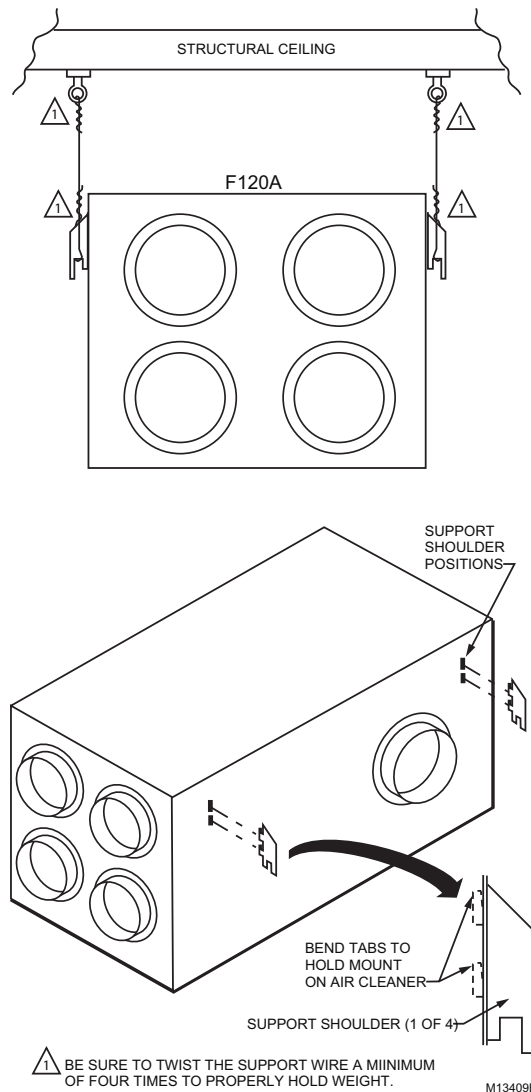

Fig. 5. Installing F120A blower module mounting bolts.
2. Mark the location for the mounting bolts in the structural ceiling. See Fig. 5.
4. Locate the multiple slots on the blower module for mounting the support shoulder mounting brackets. See Fig. 5.